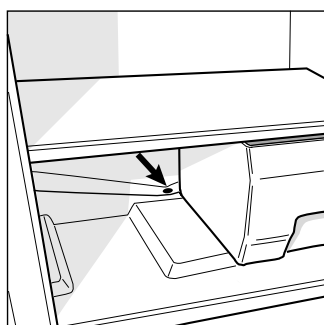

Fig. 5
This appliance defrosts automatically and the water is channelled to the back toward the drain installed for this purpose (fig. 5). Here, the heat produced by the compressor will make it evaporate. The only thing you must do is to periodically check and clean the hole of the drain, which is located behind the fruit and vegetable crisper, keeping it clear so that the water drains properly.
- The defrost drain is clear from any blockage (see fig. 5).